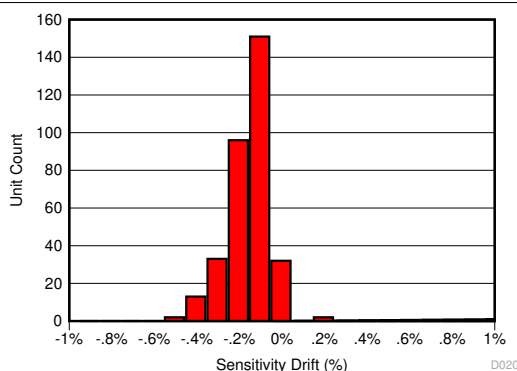
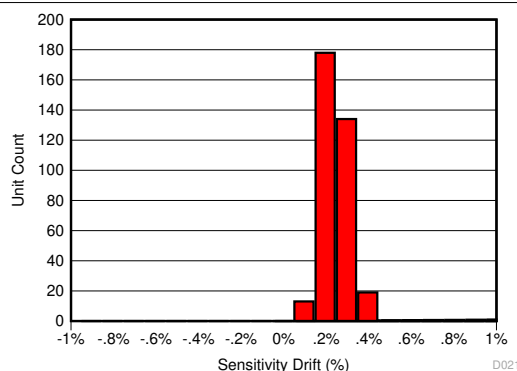
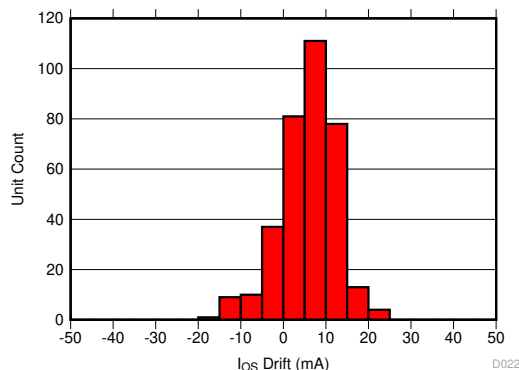

Figure 8-4. Sensitivity Error After 130°C, 85% RH HAST
Figure 8-5. Sensitivity Error Drift After AEC-Q100 High Temperature Operating Life Stress Test
Figure 8-6. Input-Referred Offset Drift After AEC-Q100 High Temperature Operating Life Stress Test
The same compensation techniques used in the TMCS1100-Q1 to reduce temperature drift also greatly reduce lifetime drift due to aging, stress, and environmental conditions. Typical magnetic sensors suffer from up to 2% to 3% of sensitivity drift due to aging at high operating temperatures. The TMCS1100-Q1 has greatly improved lifetime drift, as defined in the Electrical Characteristics for total sensitivity error measured after the worst case stress test during a three lot AEC-Q100 qualification. All other stress tests prescribed by an AEC-Q100 qualification caused lower than the specified sensitivity error, and are within the bounds specified within the Electrical Characteristics table. Figure 8-4 shows the total sensitivity error after the worst-case stress test, a Highly Accelerated Stress Test (HAST) at 130°C and 85% relative humidity (RH), while Figure 8-5 and Figure 8-6 show the sensitivity and offset error drift after a 1000 hour, 125°C high temperature operating life stress test as specified by AEC-Q100. This test mimics typical device lifetime operation, and shows the likely device performance variation due to aging is vastly improved compared to typical magnetic sensors.